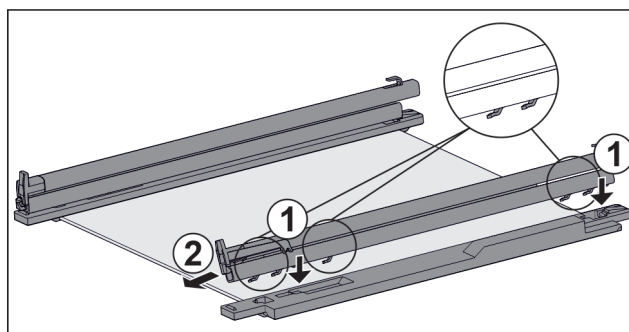

Fig. 224 Glass shelf with rails and retaining parts
- ▶ Place rail hooks onto the openings of the **left** retaining part. *Fig. 224 (1)*
- ▶ Push rail forwards. *Fig. 224 (2)*
- ▶ Place rail hooks onto the openings of the **right** retaining part. *Fig. 224 (1)*